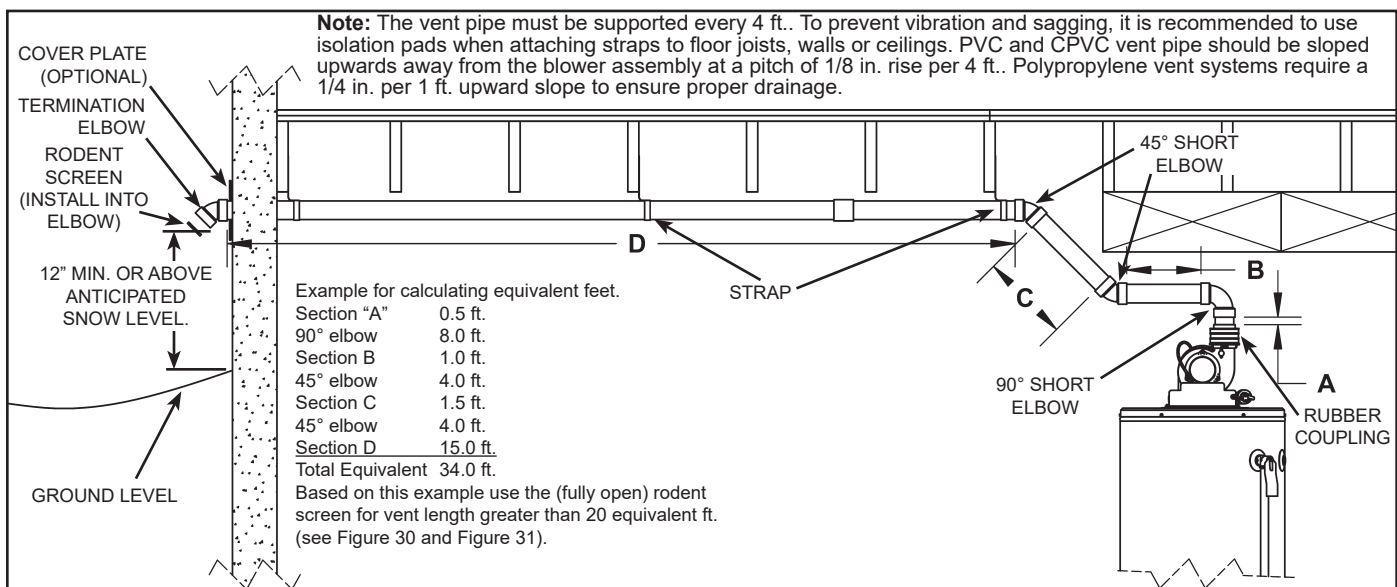

Figure 32.
This heater is designed to exhaust the products of combustion (flue gases) to the outdoors using a sealed piping system. Table 3 lists the allowable vent materials and sizing information. Figure 32 shows the general venting layout while Figure 36 through Figure 40 show various end termination details and clearances. Connection of the venting piping to the blower is shown in Figure 36 through Figure 40.
- Refer to Figure 32 and Table 3 for vent pipe materials and sizing. Examples of the vent terminations are shown in Figure 33 and Figure 34. If the installation requires a vent riser, suitable drainage must be provided to ensure condensation does not accumulate. Termination through a roof is shown Figure 35.
Installed in the vent termination elbow, the vent screen is required to keep foreign objects, rodents and small birds from entering the venting system. These screens have been sized to ensure maximum energy efficiency of the vent system based on the "equivalent length" of the vent piping. **CHOOSE ONLY the ONE SCREEN THAT MATCHES YOUR VENTING CONFIGURATION** (see Figure 30 and Figure 31). How to determine the "equivalent length" is shown in Figure 32 and in Table 3.
5. Calculate “Equivalent Vent Length” before starting. Do not exceed the values shown in Table 3. An example of how this length is determined is shown in Figure 32. The value from your calculations should also be used to determine which rodent screen to install into the vent termination elbow.